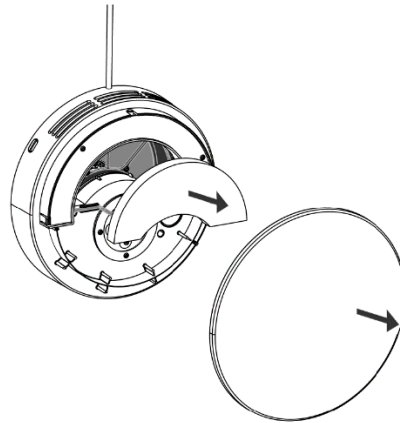

Figure 29 - Remove the internal filter
2. Remove the internal cover. Take out the old filter and remove any dirt with a dry rag, see Figure 29 below. The spent filter can be disposed of as household waste. Reattach the internal cover. (Don't put a new filter in yet).